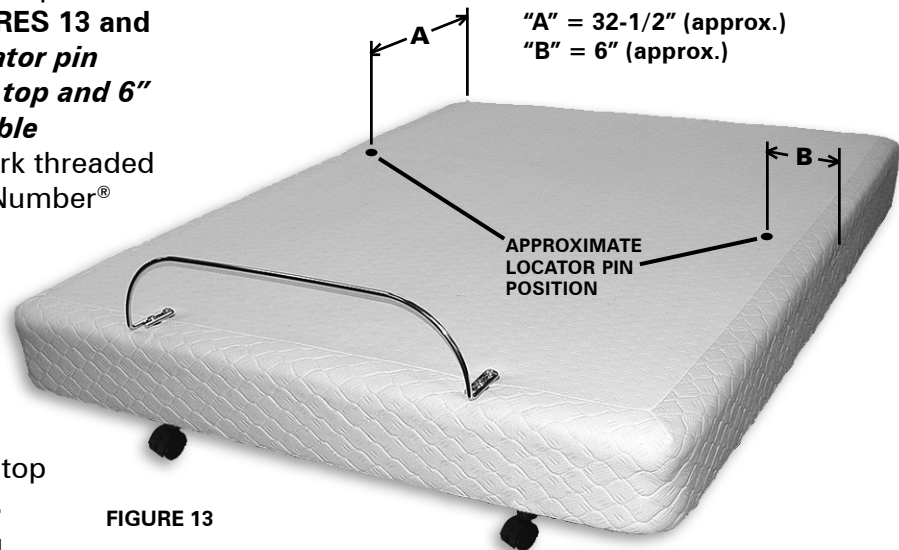

FIGURE 13
2. Identify and remove (2) locator pins in the adjustable foundation (**FIGURES 13 and 14**). **Note: approximate locator pin position is 32-1/2" from the top and 6" from the side of the adjustable foundation.** Locator pins mark threaded lug location used for Sleep Number® mattress attachment.